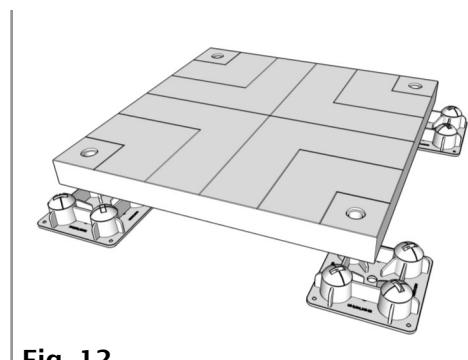
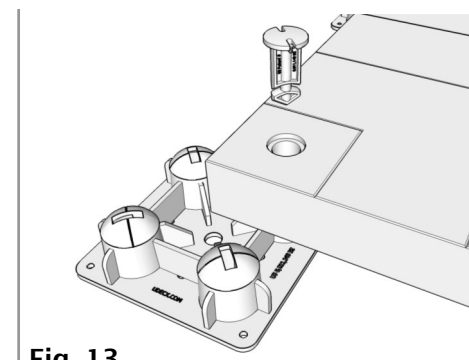

Fig. 12
Fig. 13
6. Place a Pad (B) on top of the 4 installed Piers (A) (Fig. 12) and insert 4 Cam Locks (C) into the 4 cam ways in the Pad (B). (Fig. 13)